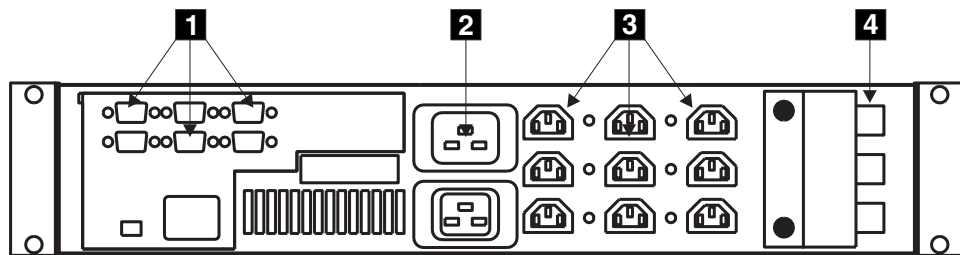

Figure 290. 2145 uninterruptible power supply (rear view)
2. At the back of the 2145 uninterruptible power supply (Figure 290), disconnect the power cables of the SAN Volume Controller **3**.
3. Disconnect the signal cables (**1** in Figure 290).
4. Disconnect the main power cable (**2** in Figure 290).